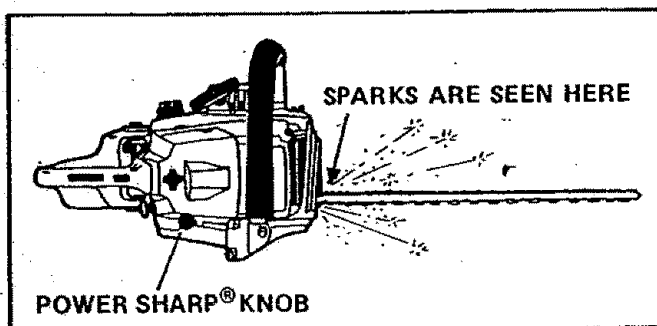

Figure 20
5. Push the Power Sharp® Knob down slowly until fully pressed down. Figure 20.
6. Turn knob slowly clockwise until sparks can be seen as shown in Figure 20.